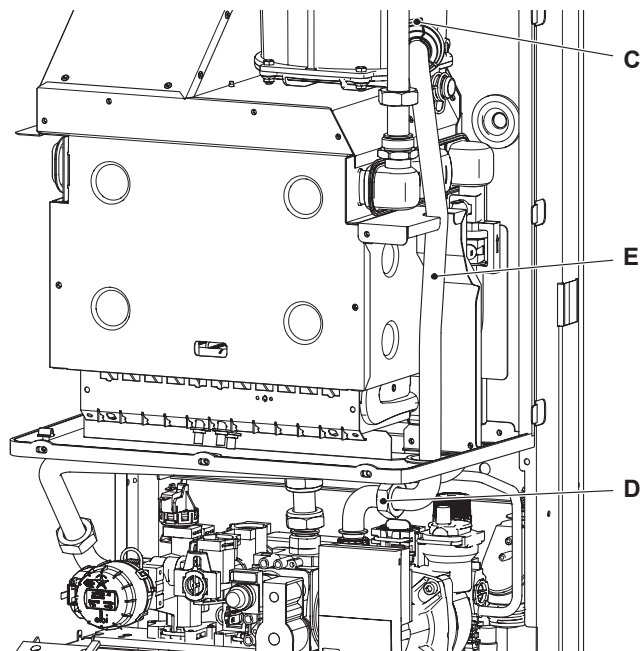

Figure 8.2
- 4 Loosen the connection D (Figure 8.2), and pull up and turn to the left the pipe E.